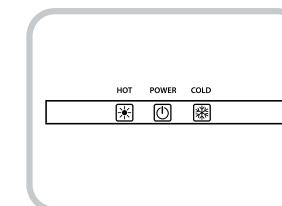

Fig.4
6. Turn ON the hot water switch, wait a couple of minutes and turn ON the cold water switch. Allow the unit to reach the minimum cold and hot water temperatures. This will take approximately 60 minutes and the indicator lights will turn OFF. (Fig. 4)